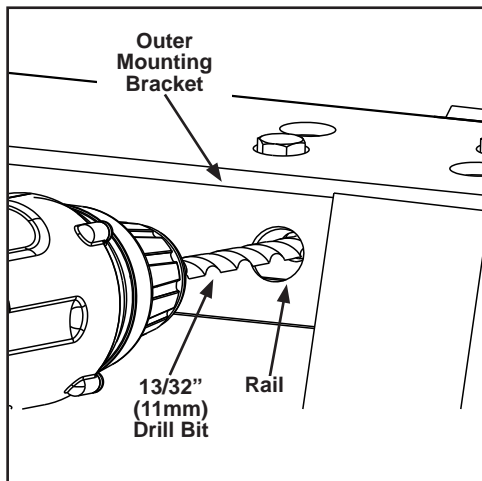
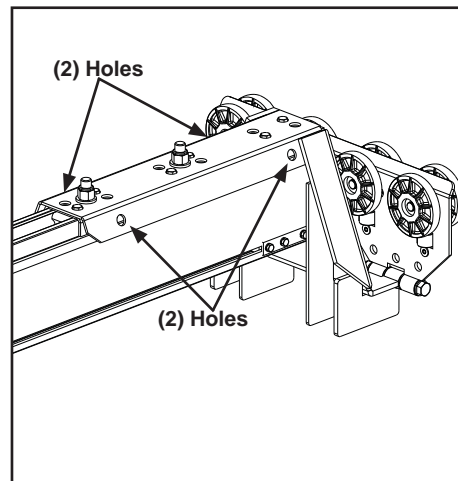

Figure 3-100
Figure 3-101
Step 9. Using same plane end truck body as a guide drill four (4) 13/32 in (11 mm) holes in top of rail through bracket channel at two (2) outer mounting brackets. See Figure 3-100 and Figure 3-101. Do not drill in-line.